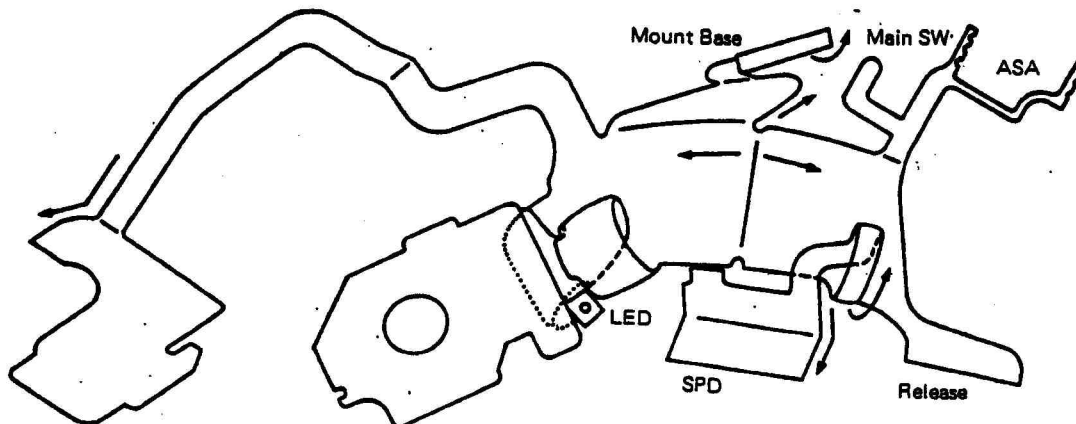

Fig. 58
n) Fold and Form the FPC as shown (fig. 58) before installing.